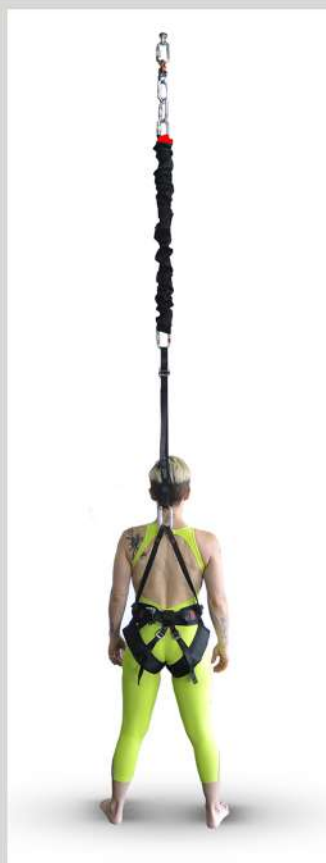

Figure 2. Back anchor point
- C)** When adjusting the front and back stitch, the extender must have a certain amount of tension so that it is always working (Figure 2 and 3).